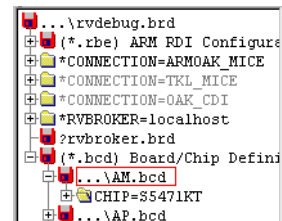

Figure 3-6 Viewing the new group in the *.bcd file
5. Click **OK** to create the group. It is initially displayed collapsed, so you must click on the  icon to display the group, shown in Figure 3-6.